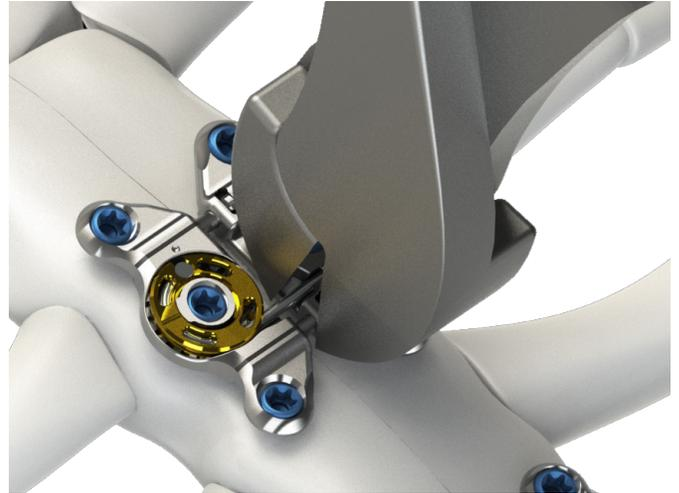
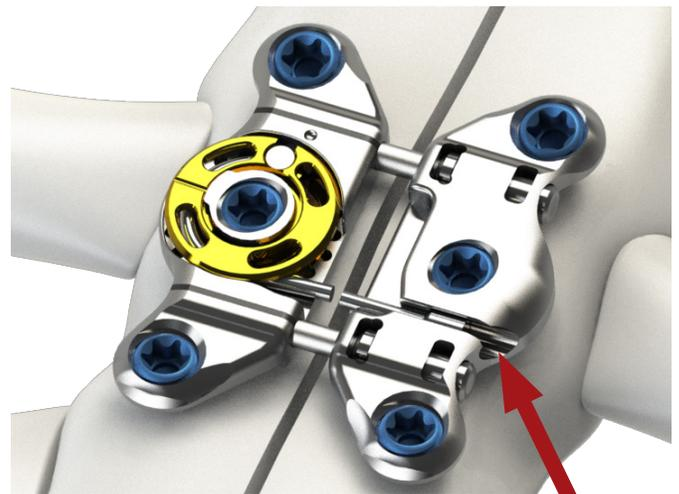

figure 15: Locking Element cut with Wire Cutter
figure 16: Red arrow indicates portion of Shear Bar Plate to cover during cutting
- Cut the Locking Element(s) with the Wire Cutter (*figure 15*). Cover the Shear Bar portion of the element with a finger or 4x4 pad to ensure that it remains in position after the cut (*figure 16*).